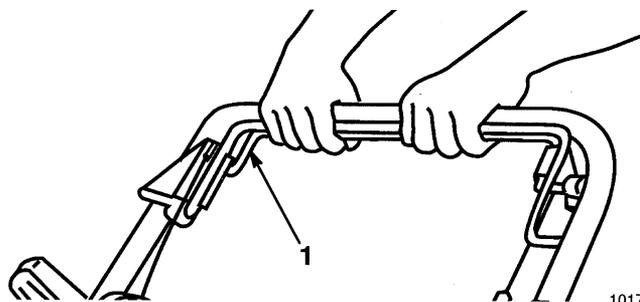

Figure 15
1. To operate self-propelled drive squeeze self-propelled bail against handle and hold (Fig. 15).